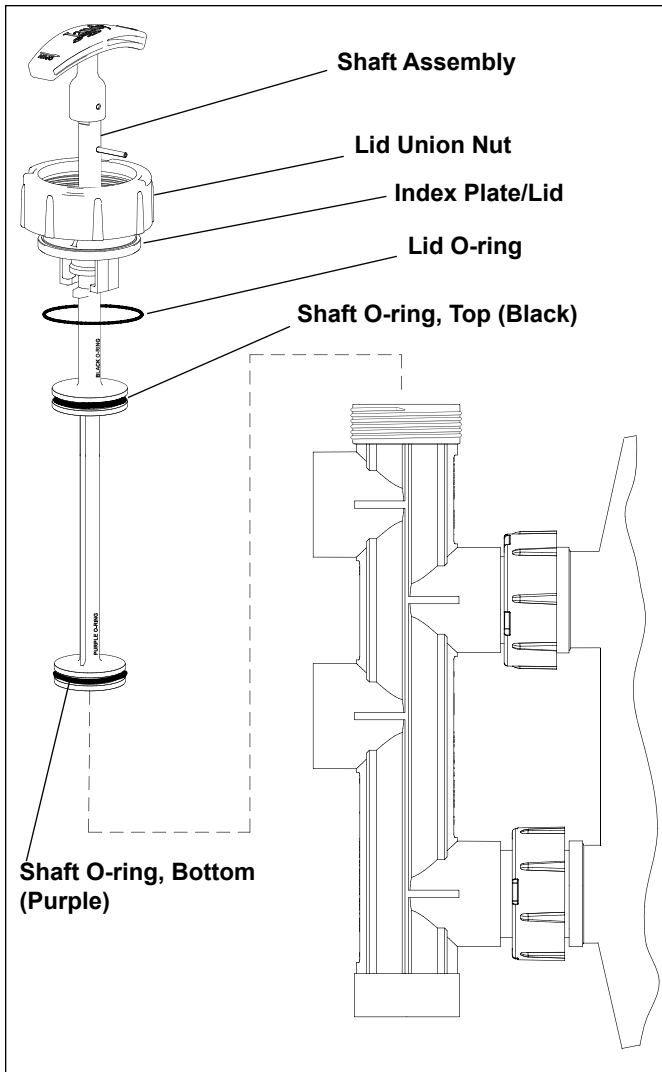

Figure 9. Remove Slide Valve Shaft Assembly
4. Grab the Slide Valve handle and pull the shaft assembly out of the valve (see Figure 9).